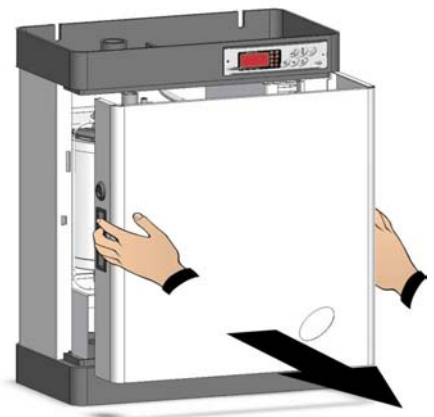

Fig. 7
4. Extract the front cover: grip the two side handles and pull outwards gently (fig. 7).